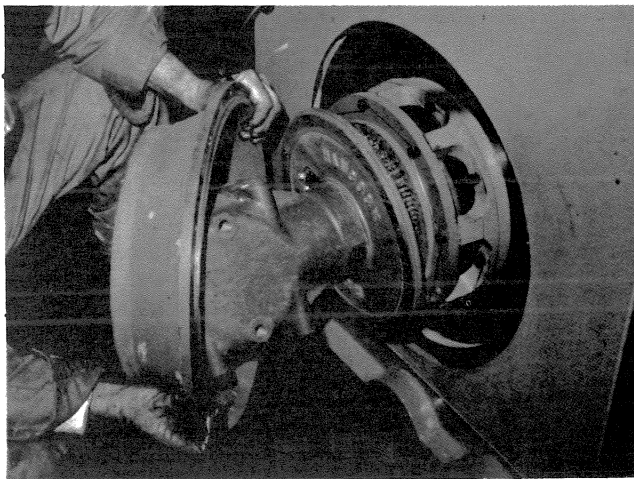

Figure 2. Removal of Bell Housing
- (3) Remove the bell housing by working it off over the gearbox (Fig. 2).